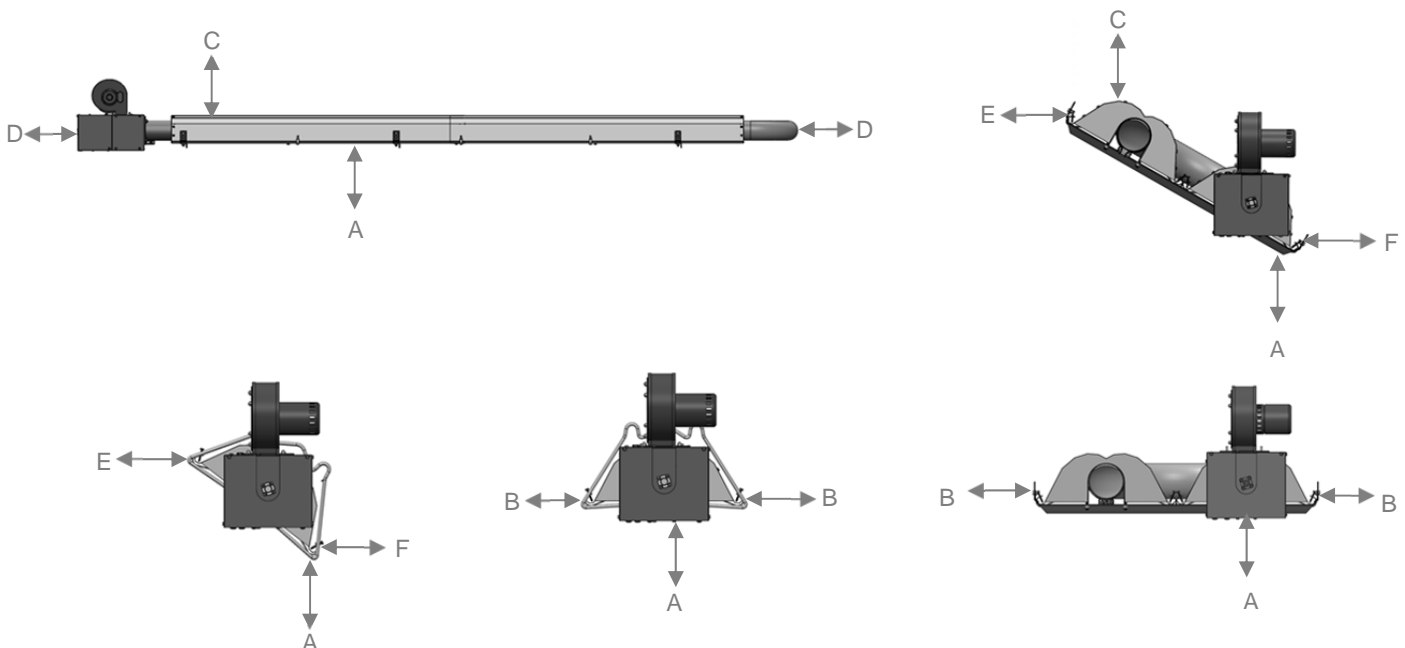

Figure 5: Clearances to Combustibles
- Suspension mechanism must allow for lateral tubing expansion. A minimum 300 mm (12") length welded link chain with a working load limit of at least 90 kg (200 lbs) is recommended (refer to Figure 5 for more details). **Manufacturer recommends and makes available "quick links" for connecting chain. If any open ended "S" hooks and turnbuckles are used, the open ends must be closed to avoid unhooking chain with inadvertent contact.**